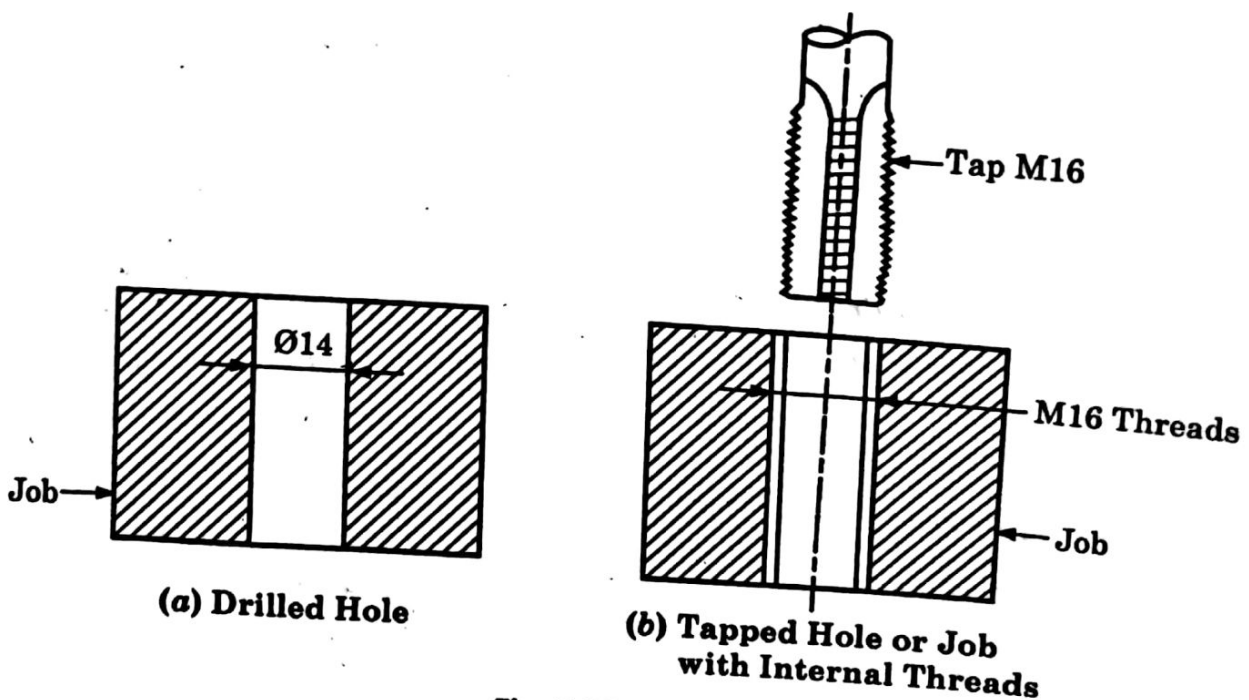

Fig. 2.20 : Tapping
8. Tapping : The tapping shown in fig. 2.20. It is the process of cutting internal threads with thread cutting tool called tap. A tap is a fluted threaded tool used for cutting internal threads. Before tapping, a hole slightly smaller than the tap is drilled. For cutting the threads, the tap is fitted in the tapping attachment which in turn is mounted in the drilling machine spindle and the threads are cut in the same way as drilling.